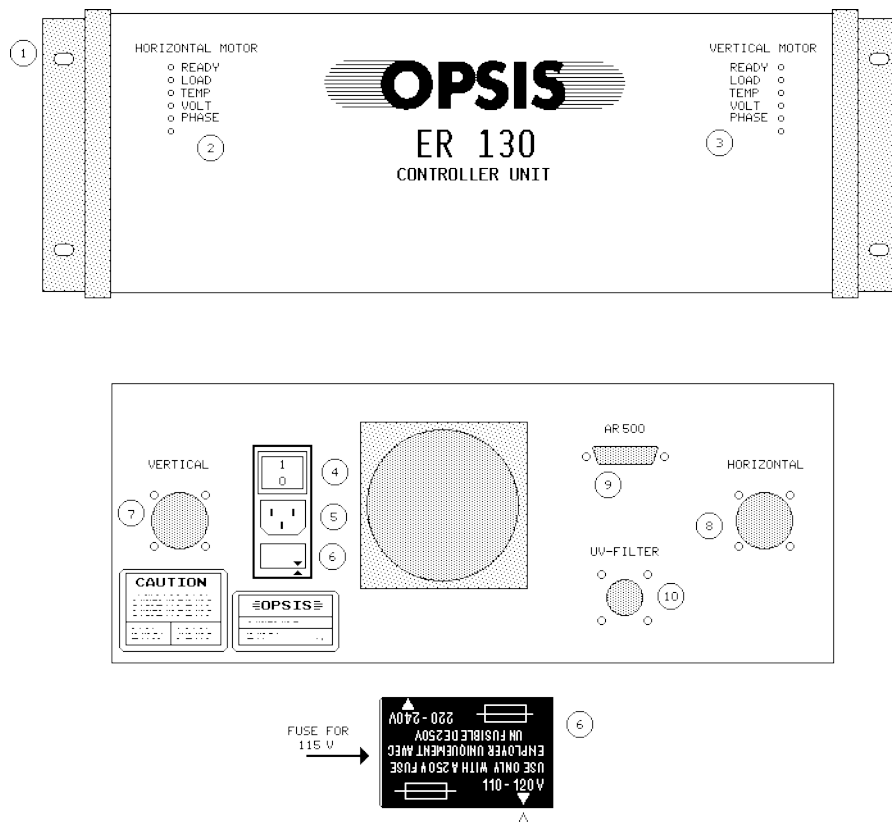

Figure 1.7. The control unit, the front and the rear side. All connections are made on the rear side.
- Turn the holder so that the correct rating corresponds to the mark on the pad, see figure 1.7. Push the holder back in position.